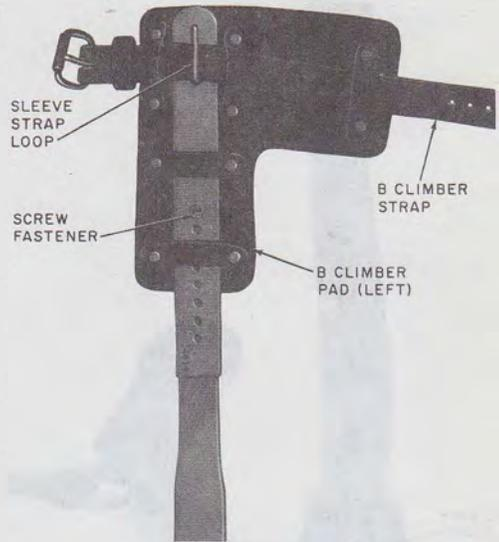

Fig. 6—B Climber Strap and Pad Installed on Climber
**2.11** The B climber strap (Fig. 6) consists of a 22- or 26-inch strap with a buckle permanently attached. The B climber strap is used to hold the pad on the leg iron and to fasten both to the employee's leg when the climber is worn.
(2) Place the B climber strap and pad on the sleeve as shown in Fig. 6. The strap should be placed so the tongue will point toward the back of the leg when buckled.
(3) Place the sleeve on the shank of the climber, step on the stirrup and buckle the foot strap so the stirrup is held firmly against the arch of the shoe. Adjust the sleeve to a position that is most comfortable.
(4) Place one of the slotted hexagon head setscrews through the hole in the sleeve that is aligned with the threaded holes in the climber and tighten the setscrew to hold the sleeve in place.